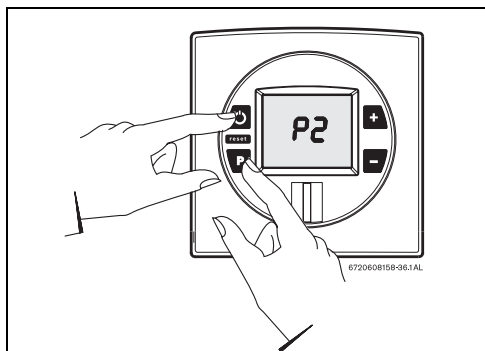

Fig. 51
- While holding the Program (P) button, press the ON/OFF button to turn ON the heater (see Fig. 51).